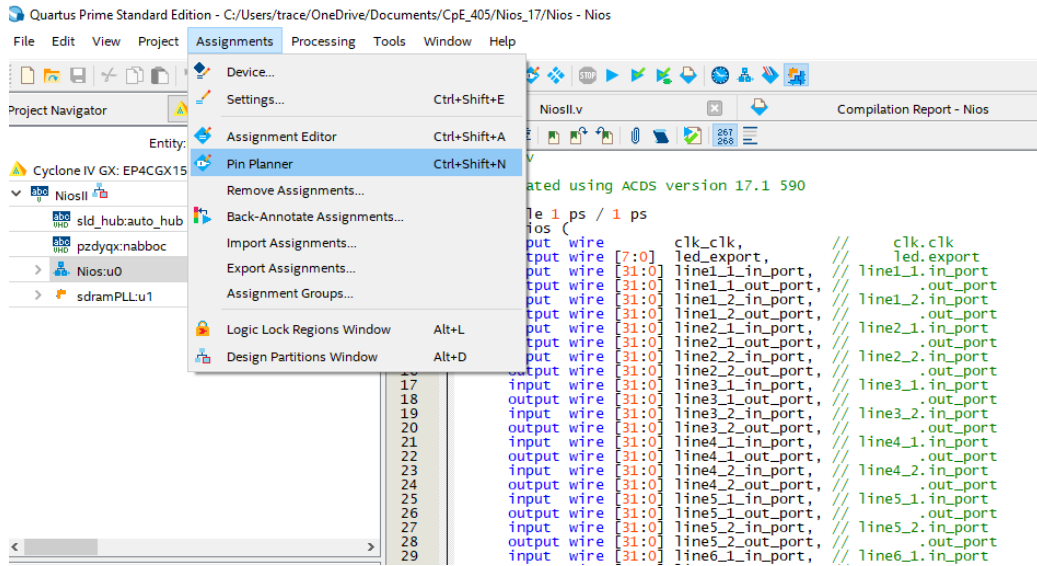

Figure 2-9
5.) You will need to assign pins to Clocks and any external input/output pins like LED's or Switches. You can do this through **Assignments** → **Pin Planner** as shown in Figures 2-9 and 2-10. We will then re-compile the project as shown above.